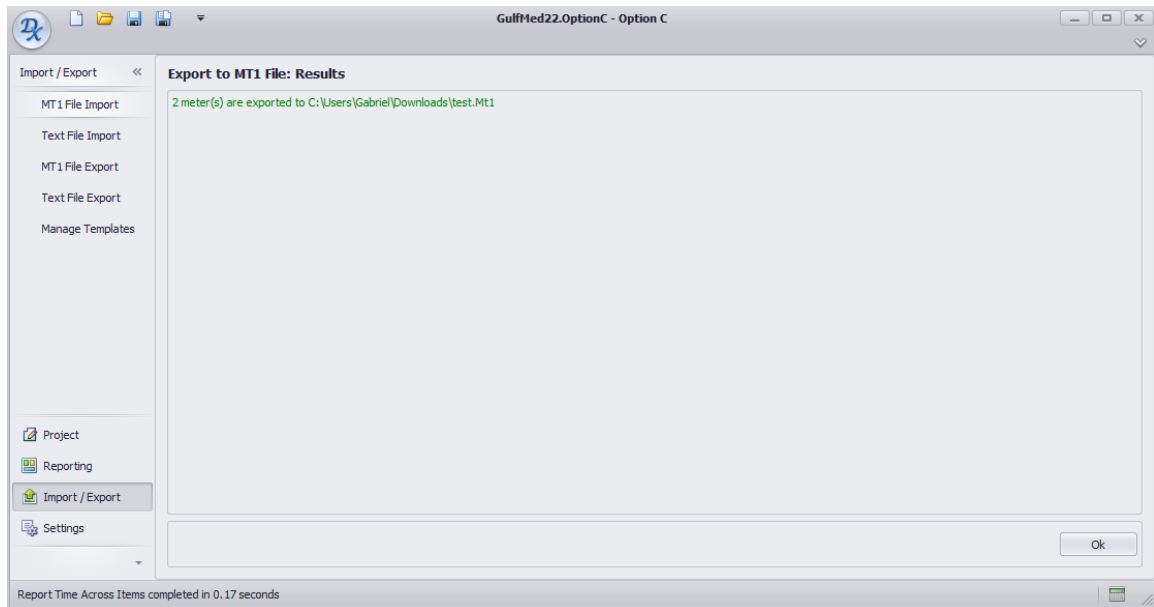

Figure 5.9: Screen for a successfully exported file.
- Check results:** If the information has been successfully exported and the MT1 file created, a window like the one shown in Figure 5.9 will appear. Click 'OK' to go back to the main Import/Export menu.